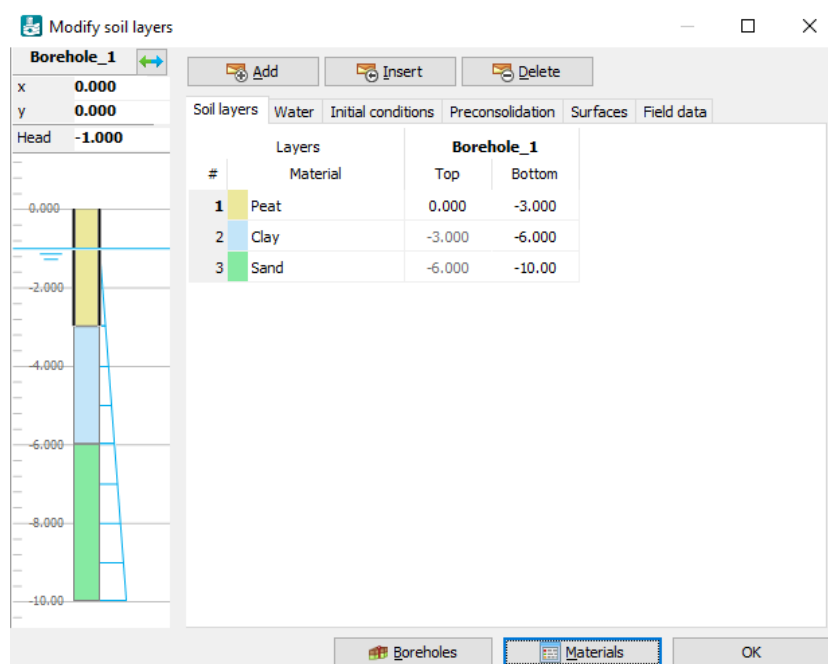

Figure 87: Soil layer distribution
2. Define three soil layers as shown in Figure 87 (on page 112).
2. Create soil material data sets according to Table 16 (on page 113) and assign them to the corresponding layers in the borehole (Figure 87 (on page 112)).